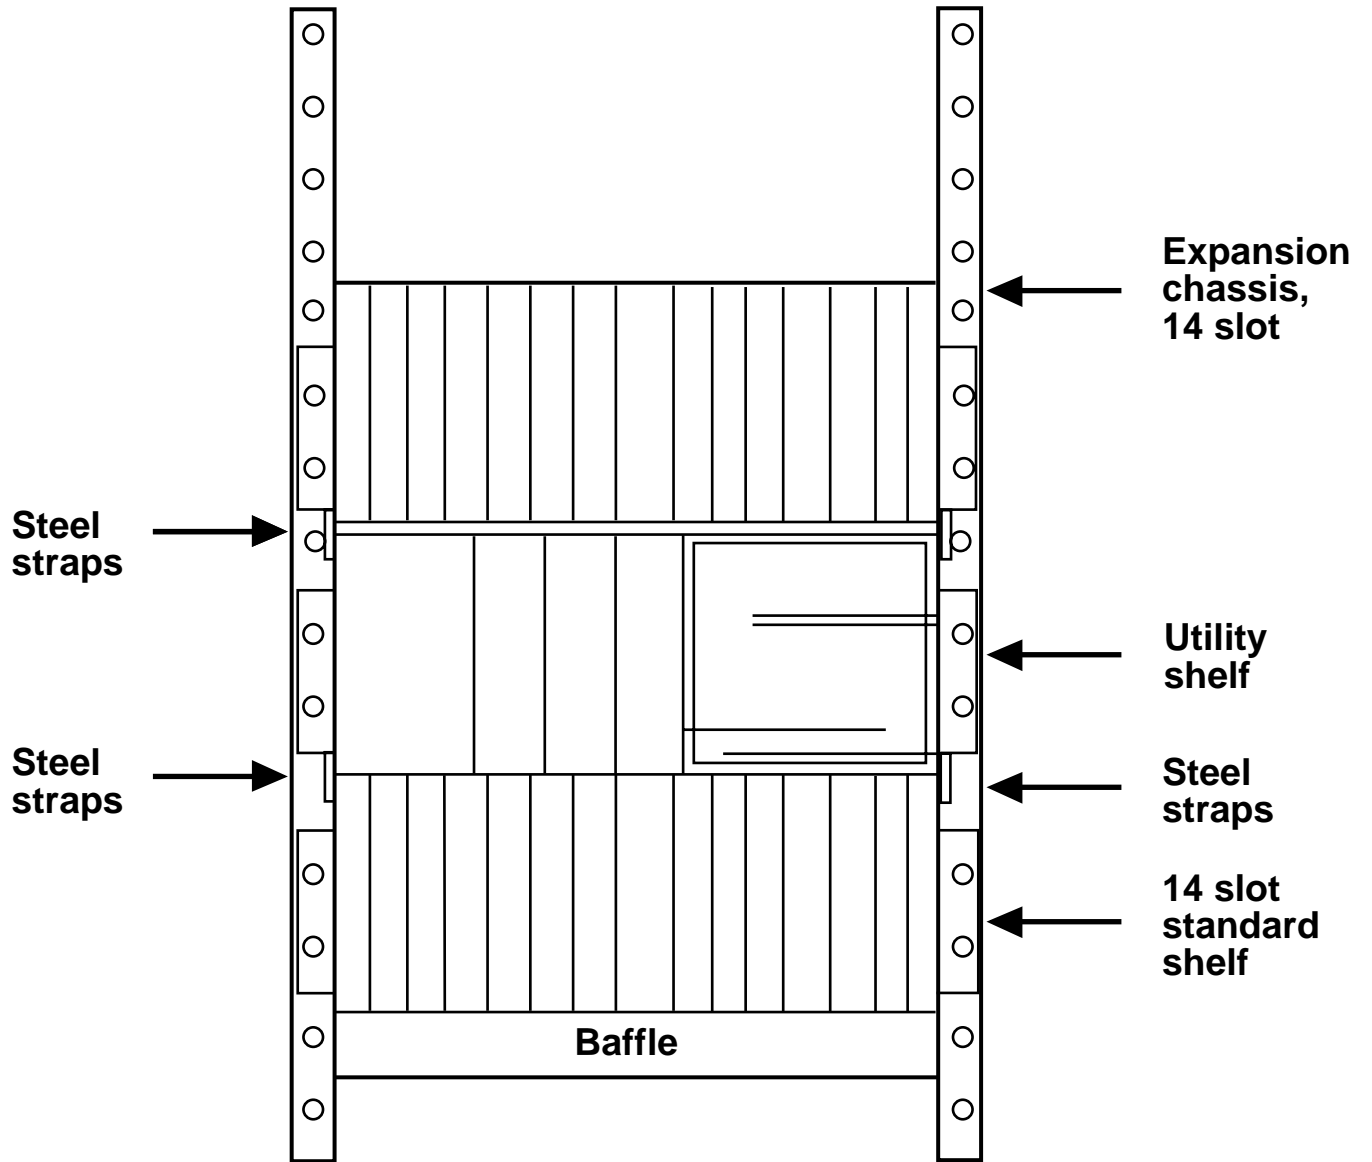
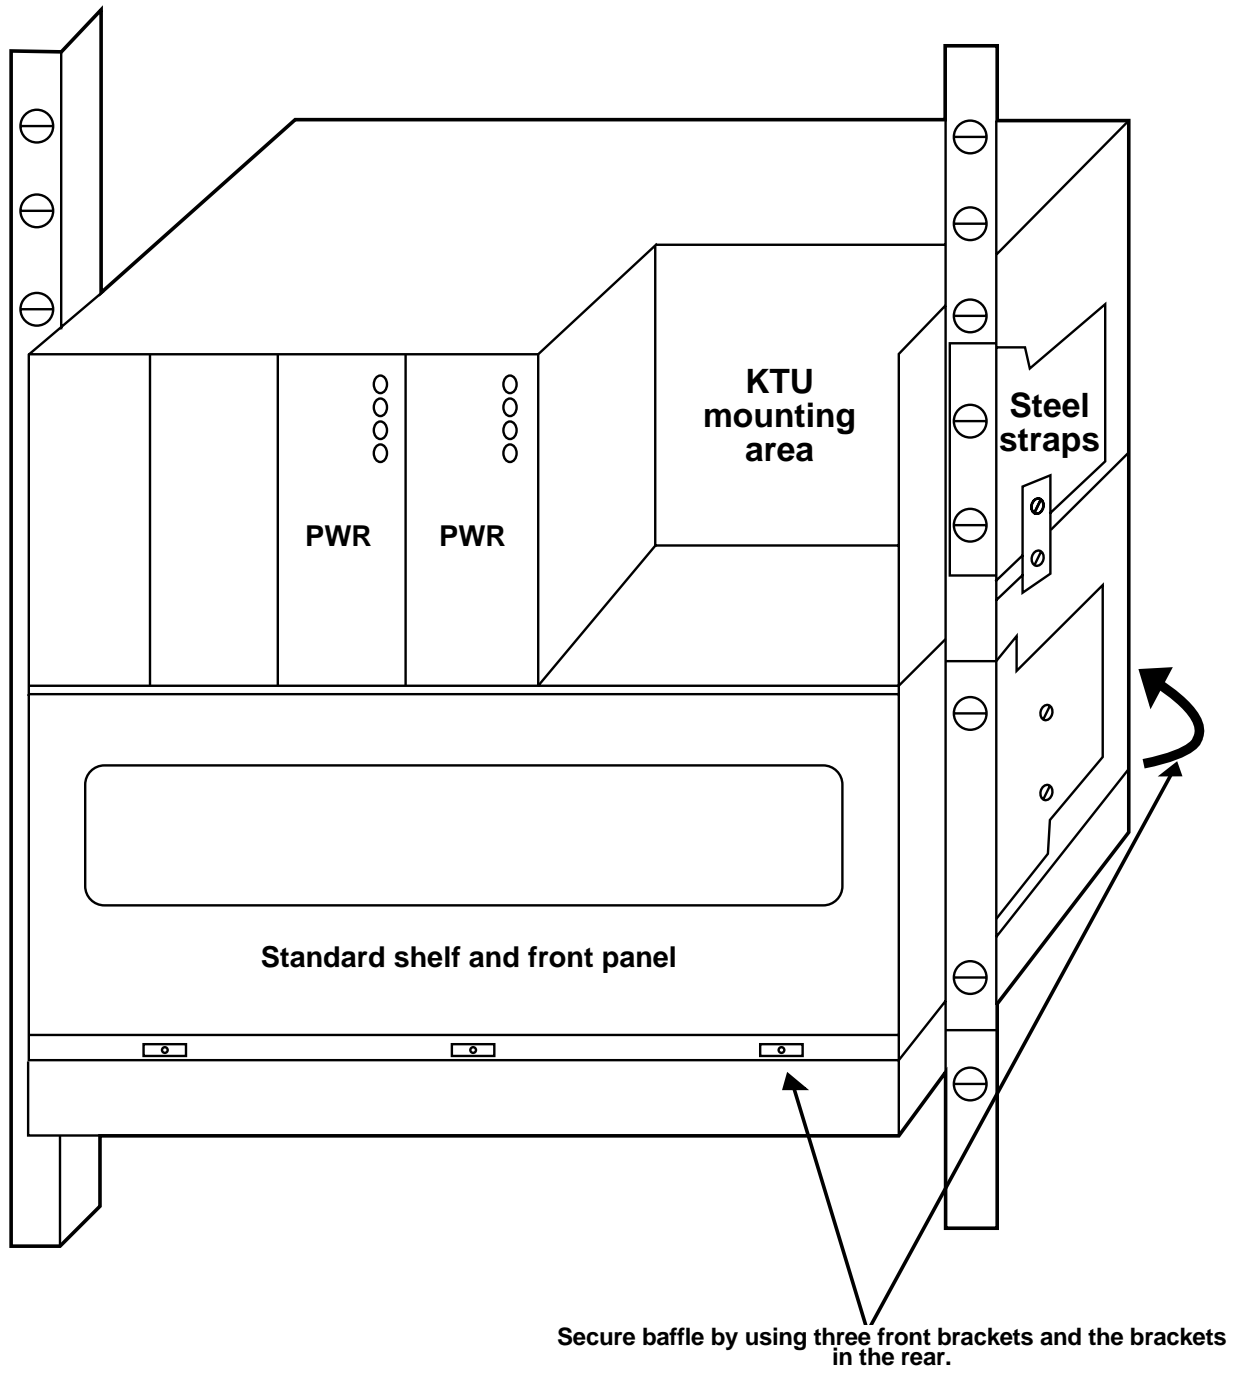

Fig. 5-2. Heat Baffle and Connecting Straps.
Fig. 5-3. Attaching Heat Baffle to Shelf Bottom.
2. Attach the heat baffle to the bottom of the shelf. See **Fig. 5-3**. The shelf unit comes with a heat baffle accessory that you attach with four screws to the bottom of the shelf. The baffle is intended to act as an enclosure bottom for open rack configurations and a protection against heat rise. Metal plates are used to attach two chassis to form one unit. See **Fig. 5-2** for an example of a 14-slot chassis with baffle and utility shelf and a second 14-slot chassis with a baffle.
To properly assemble the system, you must follow the configuration shown in Fig. 5-2. This arrangement is for either a single shelf or a single shelf with utility shelf (for power redundancy). You must install the baffle to maintain UL® compliance.